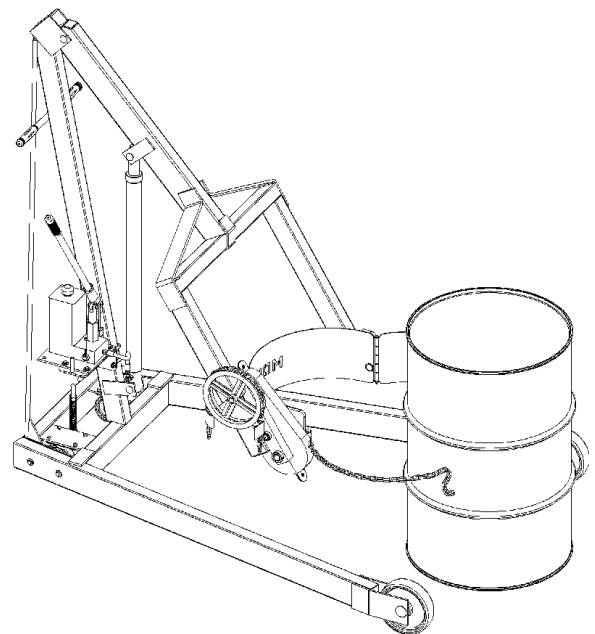

Figure 3.1
The screw-down floor lock is located on the base of the tower (figure 3.1). Turning the floor lock clockwise until it locks in the down position activates the floor lock. When the floor lock is activated it prevents unwanted free wheeling of the unit. Floor conditions determine the effectiveness of the floor lock. The operator should verify its holding action before depending on it to hold.
2.) Using the "LIFT" control as described in "**Machine Description - Controls**" (page 3) , position the drum holder assembly with the back band at the middle of the drum. (Figure 3.1). With the ratchet plate swung open and the cinch chain hanging from the chain hook, push the unit until the back band rests firmly against the drum. Some adjustment to the tilt angle of the saddle may be necessary to ensure band fits flush on the drum.